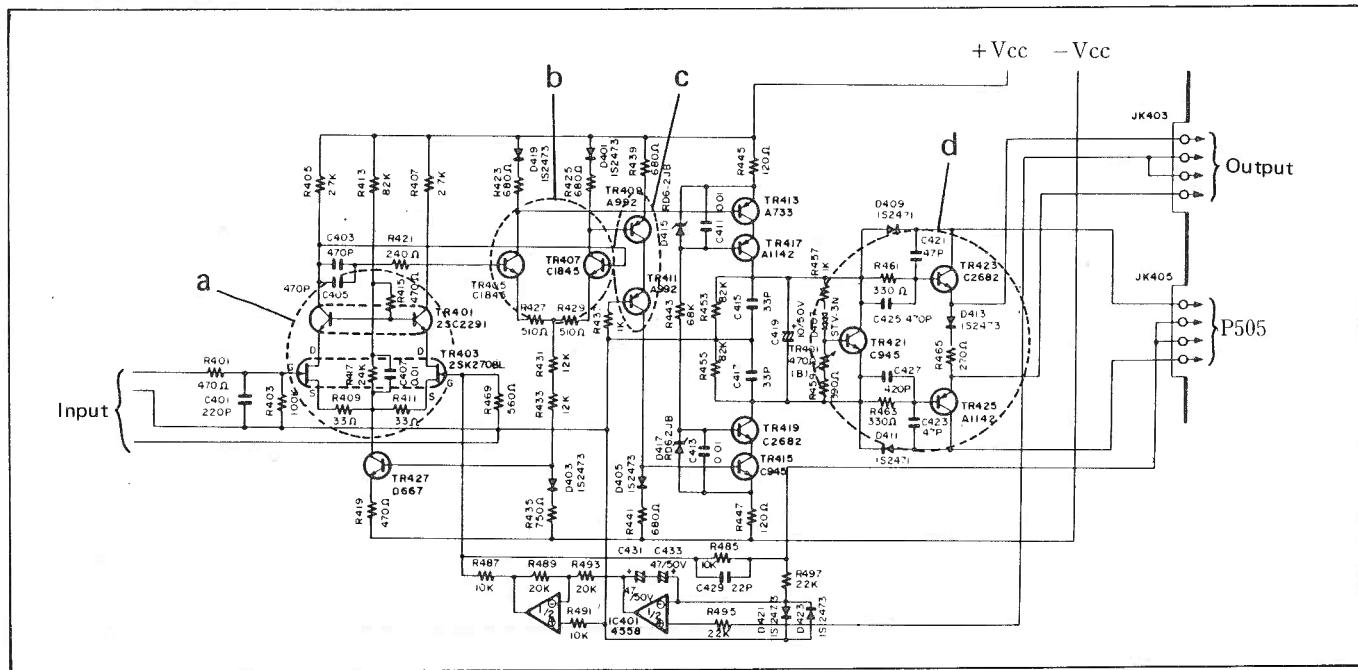

Fig. 25
The purpose of the main (V) amplifier circuit is to provide voltage amplification. Fig. 25 shows the circuit configuration.
As is evident from the characteristics chart for TR403 (2SK270BL) (Fig. 25), A is 10n(A) (with ID = 3mA and VDS = 26V).